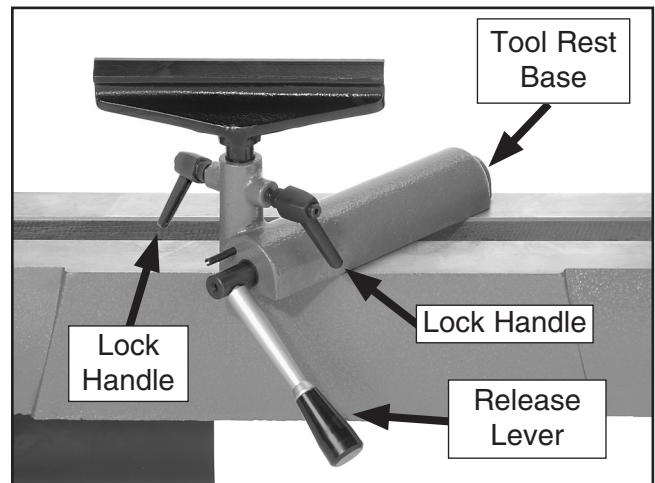

Figure 11. Tool rest controls.
1. Loosen the release lever and slide the tool rest base along the bed (**Figure 11**).
1. Loosen the lock handles (**Figure 11**) and adjust the tool rest vertically or swivel it as needed.